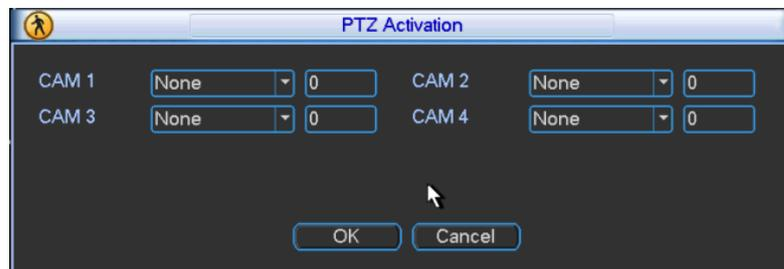

Figure 4-24
- PTZ activation: Here you can set PTZ movement when an alarm occurs. Such as go to preset, tour & pattern when there is an alarm. Click “select” button, you can see an interface is shown as in Figure 4-24.